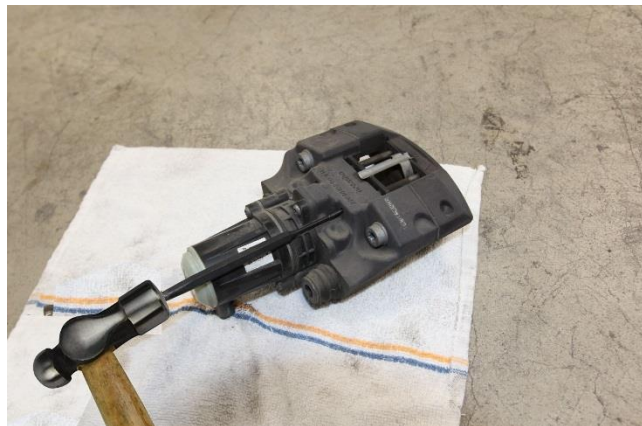

Figure 18
27. Use a 3mm pin punch to remove the retaining pins and anti-rattle spring from the LH parking brake caliper (Figure 18).